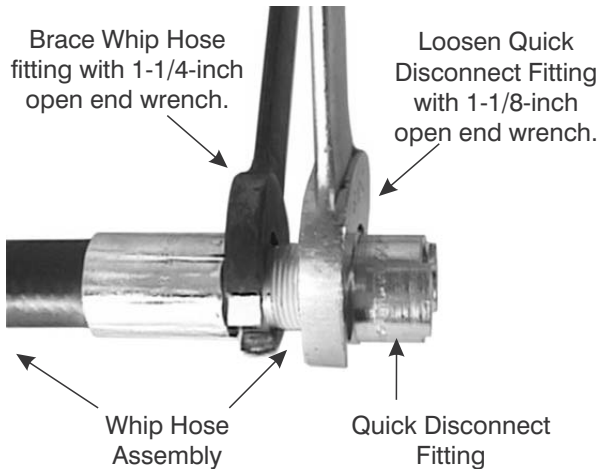

Figure 9-32. Secure the Q.D. Fitting to the Whip Hose fitting.
14. While holding the Whip Hose fitting in place with the 1-1/4-inch open-end wrench, use the 1-1/8-inch open-end wrench to tighten the two fittings so the Quick Disconnect is fastened securely to the Whip Hose. Refer to Figure 9-32.